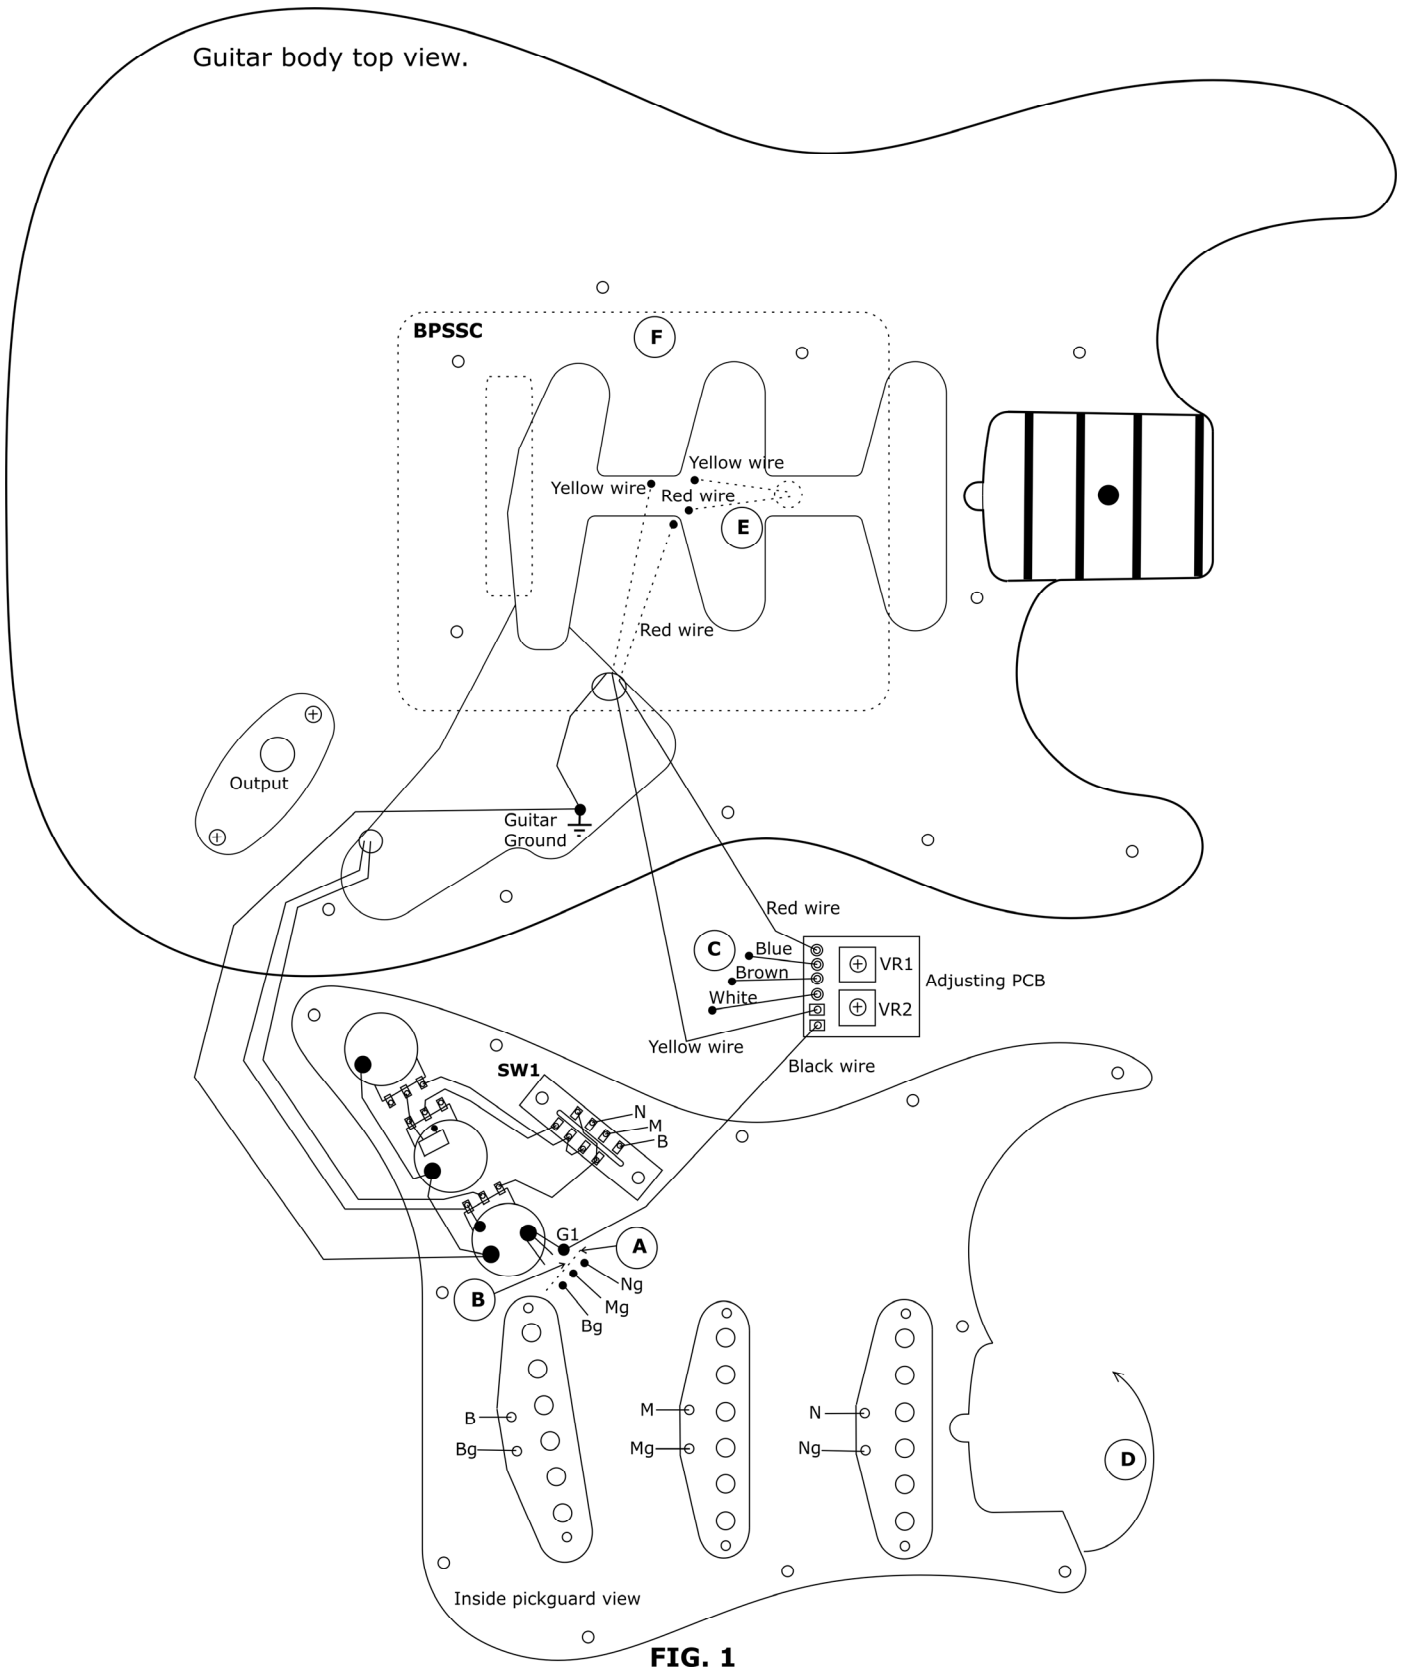

FIG. 1
4. Carefully flip the pickguard assembly around its bottom side as it is shown on FIG. 1